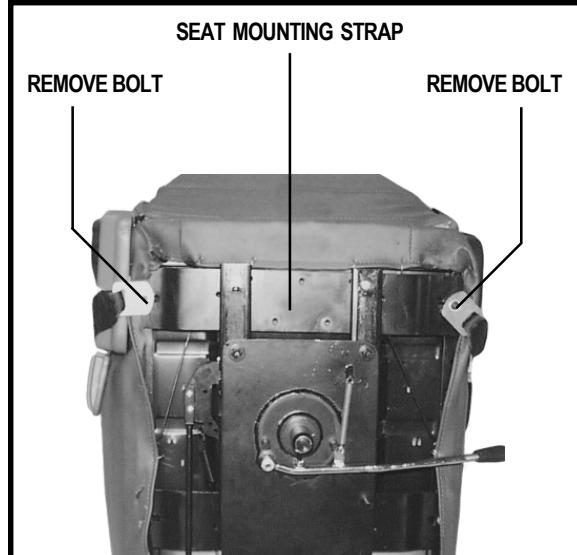

Figure 14. Positioning Belt Installation
Your scooter seat may be equipped with an auto-type positioning belt that can be adjusted for operator comfort. See figure 14. The positioning belt is designed to help support the operator so that he/she does not slide down or forward in the seat. The positioning belt is not designed for use as a restraining device.
2. Place the seat upside down so that you can see the bottom of the seat base. See figure 14.